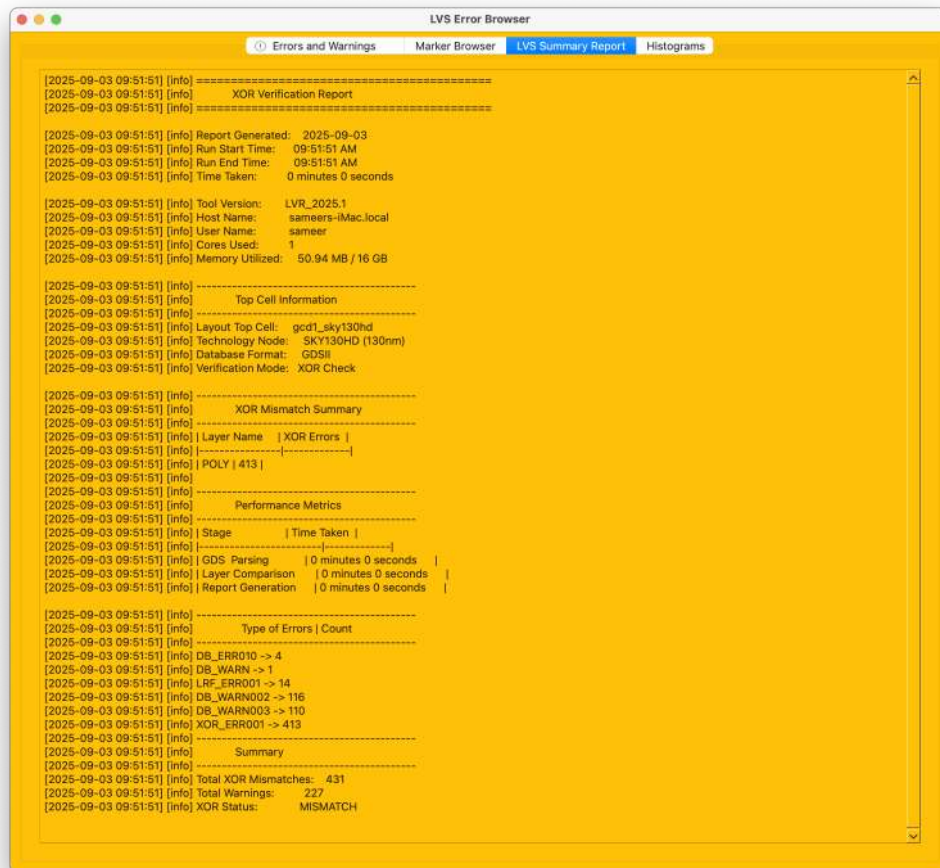

Figure 82: **gcd1_XOR002** summary: mismatch counts by layer, highlighting POLY.
- **Summary report** (Fig. 82): aggregates mismatches by layer. Here, the POLY layer shows a large non-zero mismatch count, confirming that the discrepancy is confined to POLY.